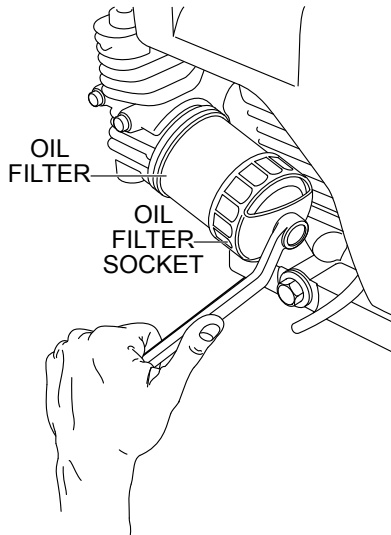

Figure 39. Oil Filter Removal
3. Use an oil filter socket tool and remove oil filter as shown in Figure 39.